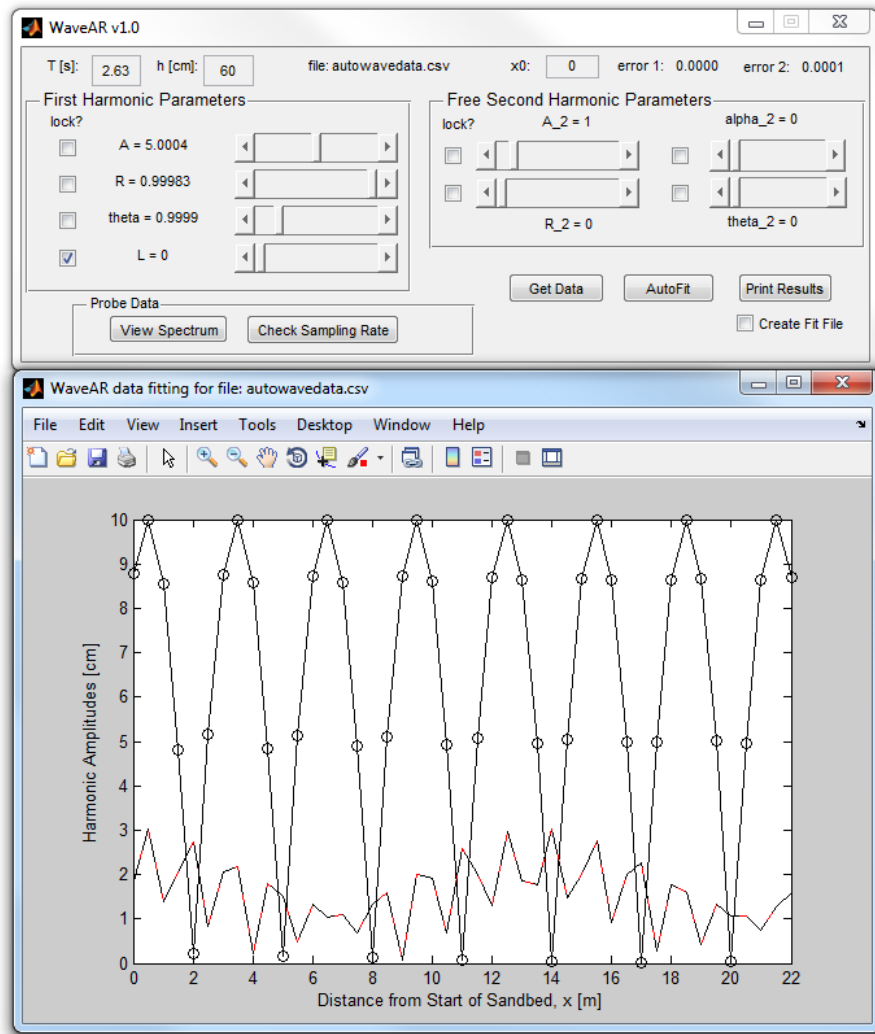

Figure 7. Resulting parameter fit after pressing the AutoFit button. The blue and red lines virtually coincide with the underlying data.
- 5) Once the fitted and measured profiles are close, the user can press the “**AutoFit**” button to perform a least squares best fit (Figure 7). While “AutoFit” can be pressed at any time, it is recommended to select initial parameters as a good first guess for the AutoFit command.